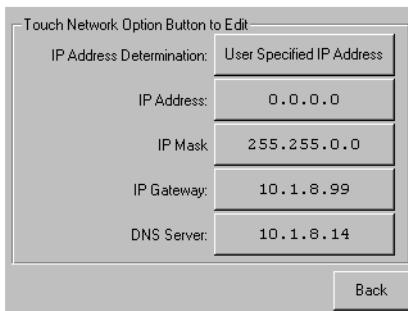

Figure 3-11. Fixed IP address screen
4. Touch each IP address option and then use the keypad to enter each IP address (see Figure 3-11):